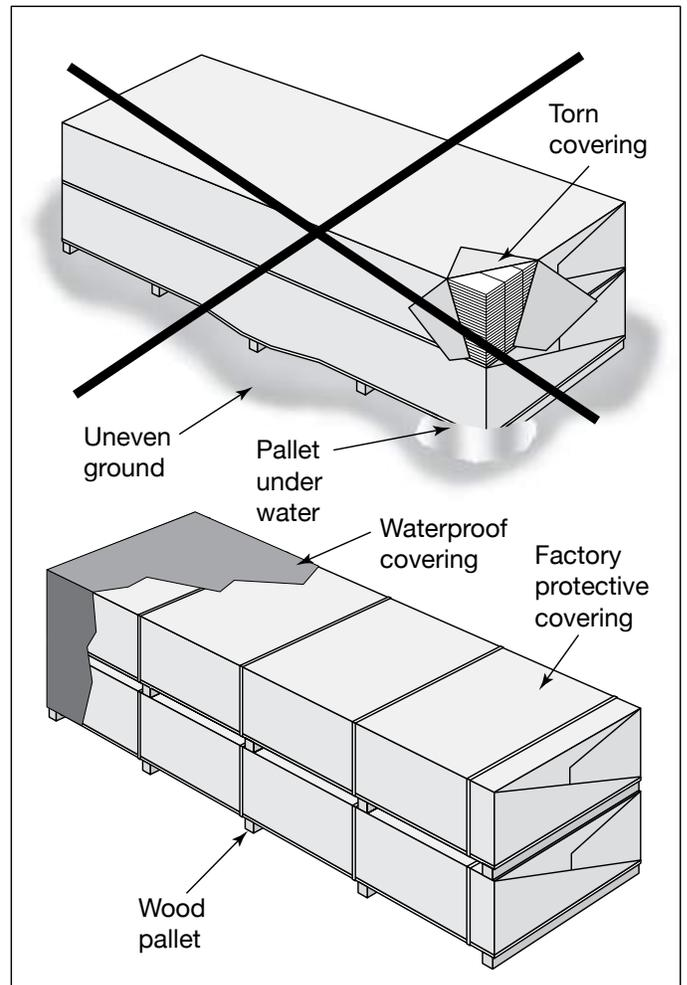

Fig. 1
- Product must be stored flat on a level surface in a clean, dry location (**Fig. 1**).
- Keep product wrapped and protected from the elements until ready for installation (**Fig. 1**).